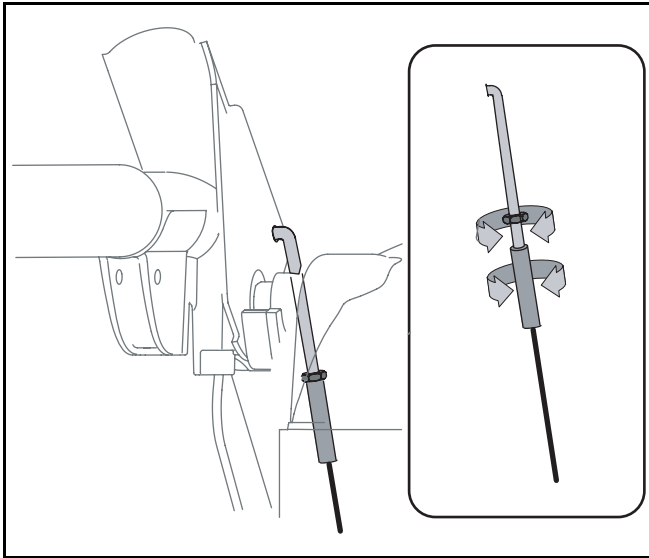

Figure 1
- Allow the auger to remain engaged for approximately ten (10) seconds before releasing the auger control. Repeat this several times.
- Retighten the hex jam nut. See Figure 1.